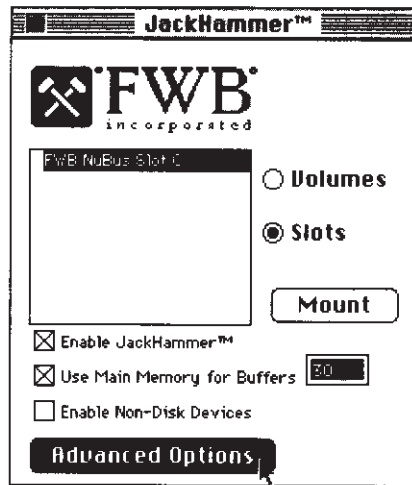

Figure 8: The Slots dialog box
1. The two radio buttons marked **Volumes** and **Slots** indicate the two dialog boxes of information that the JackHammer Control Panel can display. You can switch to the **Slots** dialog box by selecting that radio button (see Figure 8).